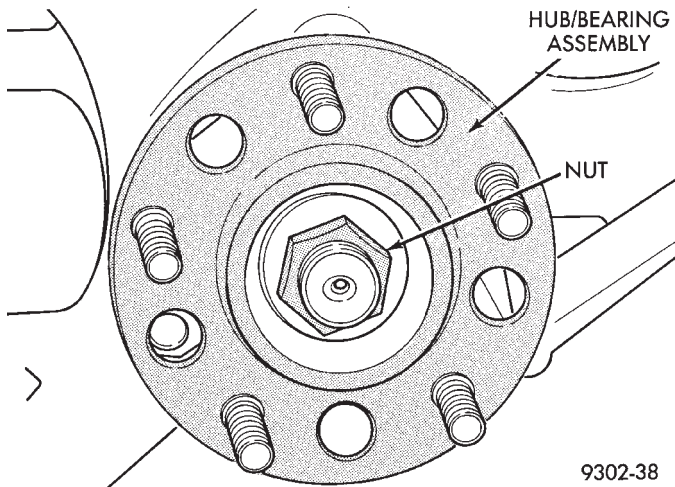

Fig. 4 Hub And Bearing To Stub Axle Retaining Nut
(6) Remove the hub and bearing to stub axle retaining nut (Fig. 4).